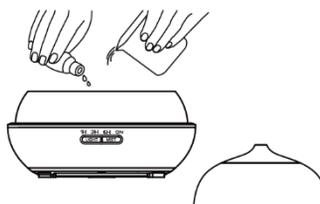

Figure 3
4. Add essential oil, we recommend adding 2 to 3 drops (0.20.3 ml) to a full container. Figure 3